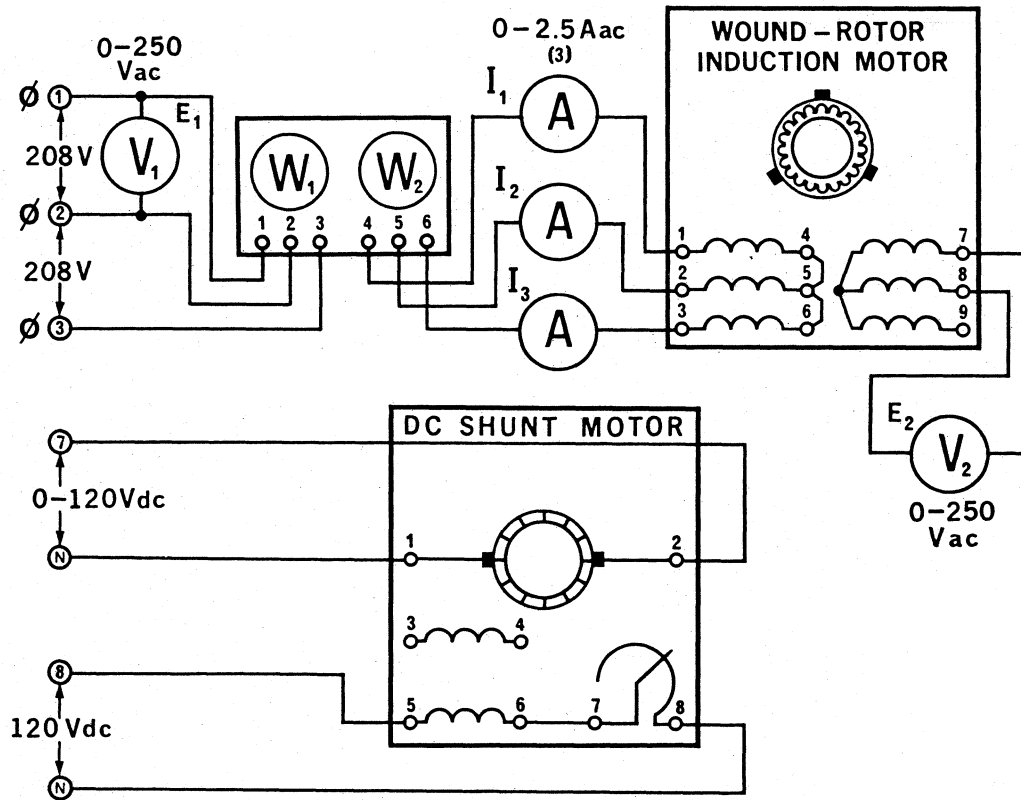

Figure 3-1.
- 4. Using your DC Motor/Generator, Three-Phase Wound-Rotor Induction Motor, Three-Phase Wattmeter, Power Supply, AC Ammeter and AC Voltmeter, connect the circuit shown in Figure 3-1.